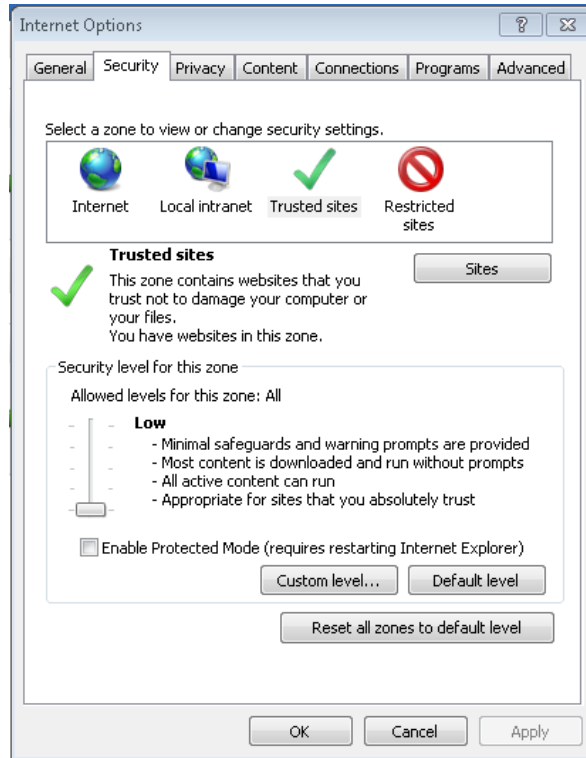
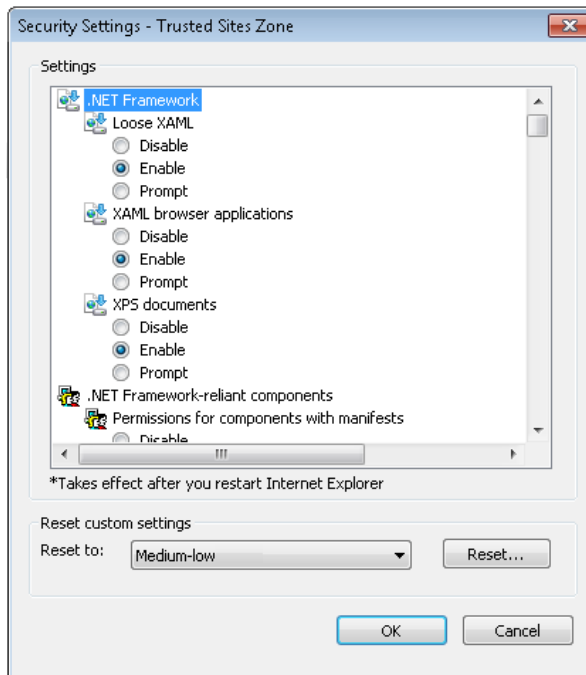

Figure 3-4 Security setting 1
Figure 3-5 Security setting 2
1. Double-click the icon of IE to run the software, click the menus of **Tools -> Internet Options** and then choose the **Security** tab to pop up the window shown in Figure 3-4.
2. In the window shown in Figure 3-4, choose **Trusted sites** and click the **Custom level** button to pop up the window shown in Figure 3-5.
3. In the window shown in Figure 3-5, set 'Medium-low' for the security level. Click the **Reset** button to finish **Reset custom settings**, at last, click **OK**.